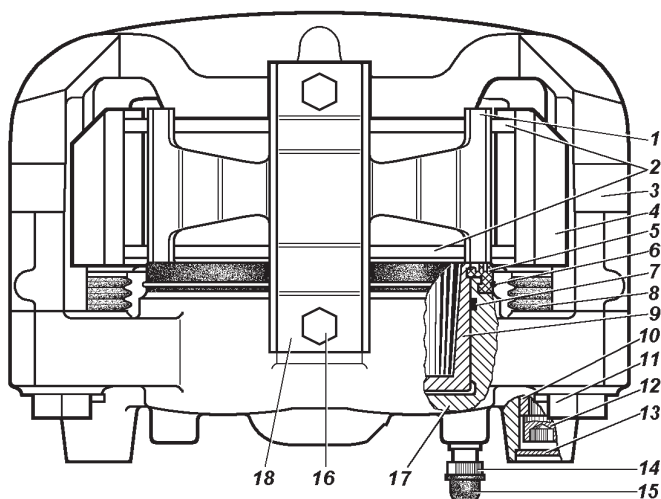

Fig. 9.28. Front Disc Brakes:
**Front Disc Brakes.** To inspect the wear of brake shoes 2 (Fig. 9.28) you can use a mirror or remove the wheel. For the second variant place the vehicle on a level ground and apply the parking brake. Inspect the shoes through the window in caliper 4. If the linings wear to the thickness of 1.5–2.0 mm, replace the shoes on both front wheels.